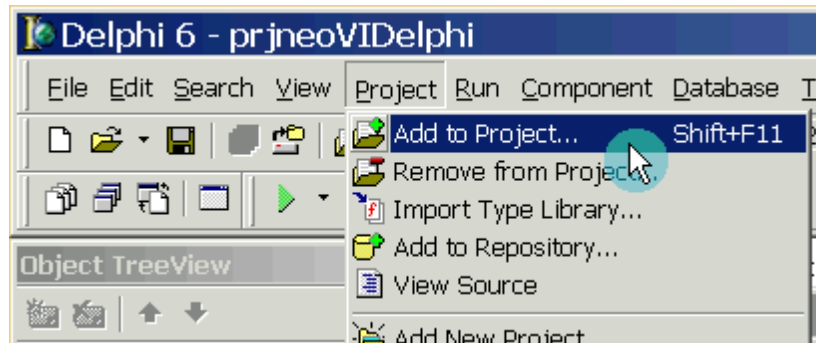

Figure 1 - Add the Link to the "icsn40.pas"
2) Link to icsn40.pas import library via the "Add to Project..." option (Figure 1). This dialog is accessible via the "Project" pull down menu in Delphi. When the file dialog appears, select the icsn40.pas.